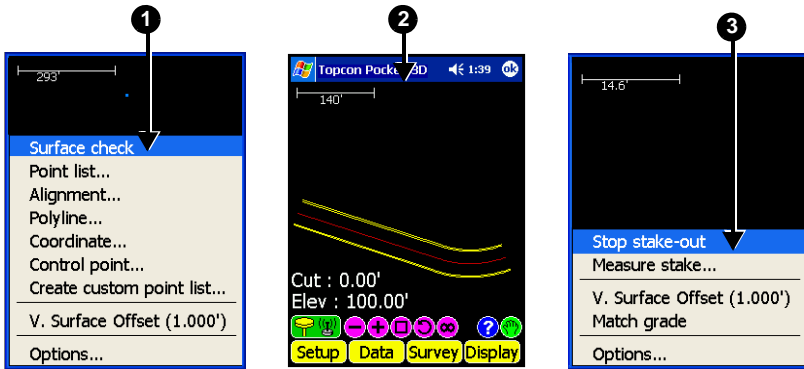

Figure A-29. Perform a Surface Check
1. Tap **Survey** ▶ **Stake-out** ▶ **Surface check** (Figure A-29).